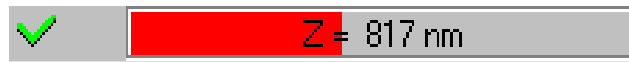

Fig. 3-9
- The length of the indicator's color bar decreases and stops somewhere in the middle (Fig. 3-9);